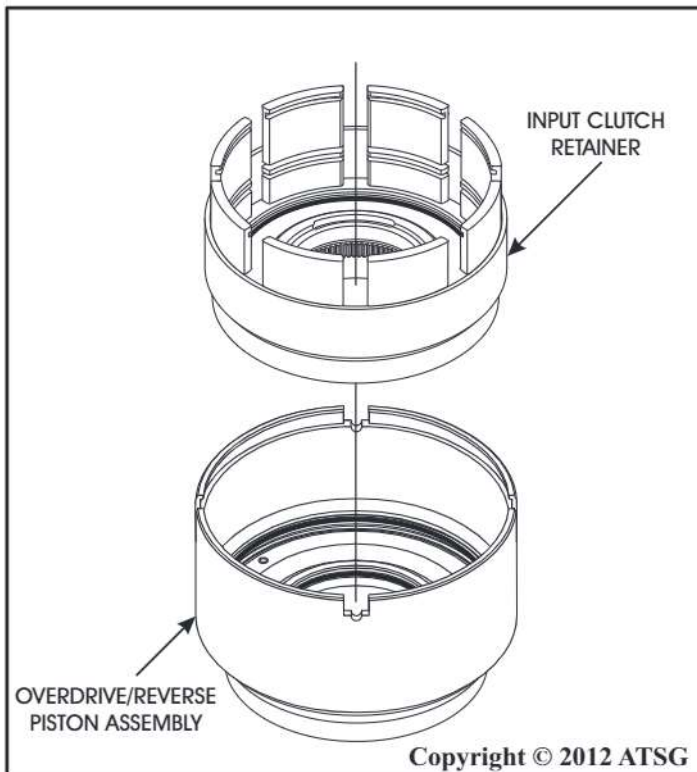

Figure 182
14. Lubricate all seals and install the input clutch retainer into the overdrive/reverse piston by rotating into position, as shown in Figure 182, until fully seated.